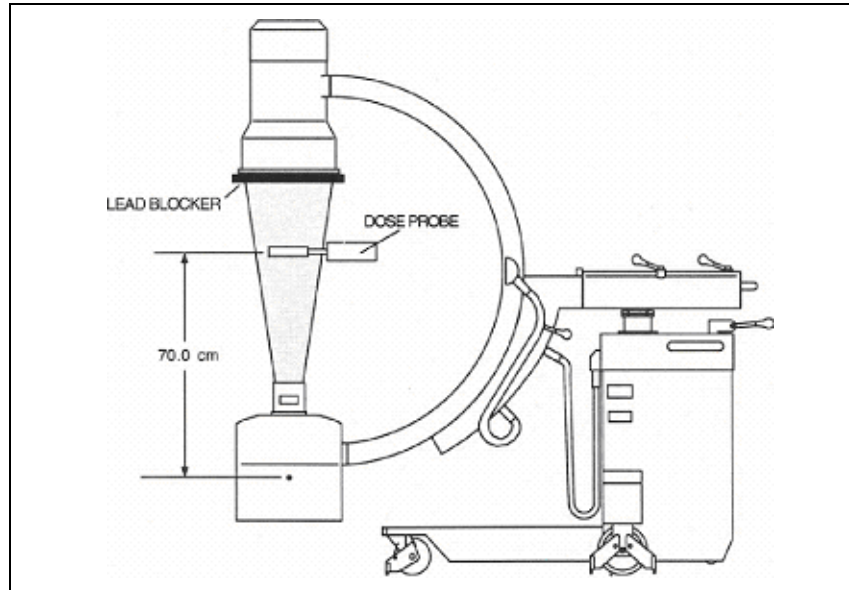

Fig. 2 Dosimeter probe placement
- Place a dosimeter probe in the center of the x-ray path, 70 cm from the focal spot, as shown in Fig. 2.